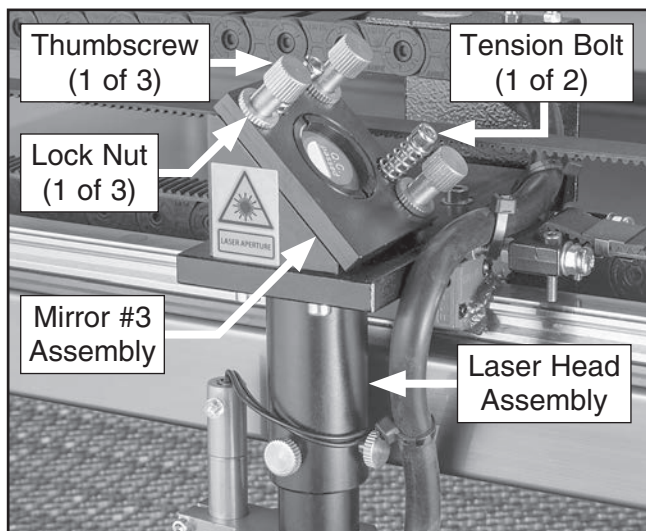

Figure 117. Mirror #3 assembly components.
32. Open top loading door and loosen lock nuts on (3) brass thumbscrews located behind Mirror #3 assembly (see **Figure 117**).